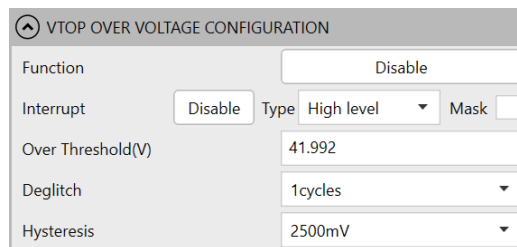

Figure 27: V_{TOP} Over-Voltage Configurations
- a. Threshold (V): The V_{TOP} UV threshold can be set between 0V and 79.98V.
29. Figure 27 shows how to configure the V_{TOP} OV parameters.